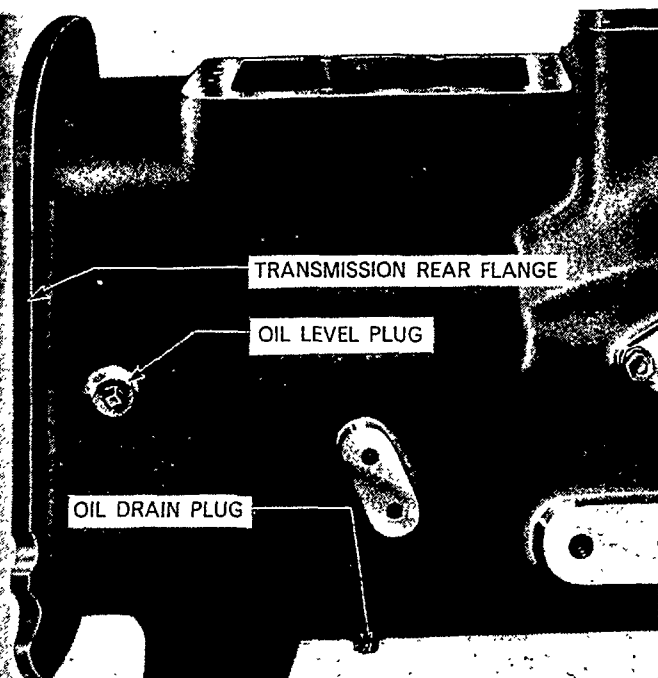

Figure 13
9. Install the drain plug and remove the transmission level plug, Figure 13. Fill the transmission to the level plug hole with oil of the specified grade (See Specifications, Chapter 2). Install and tighten the level plug.